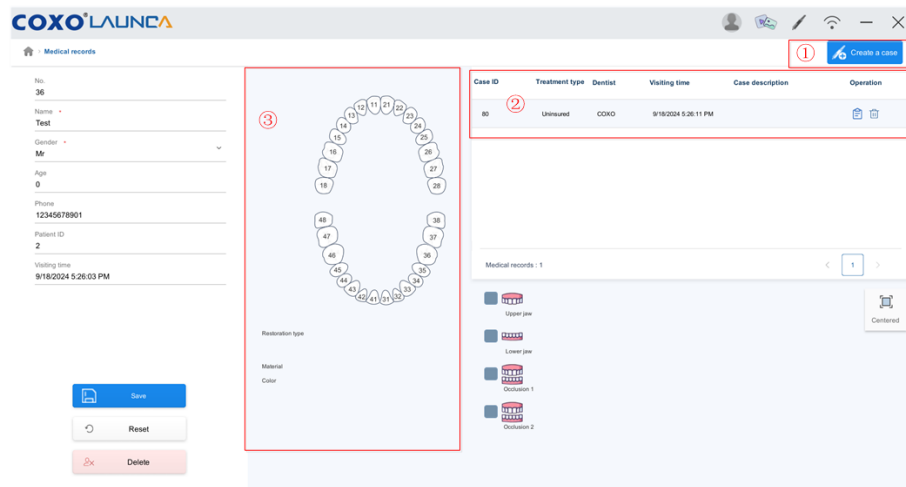
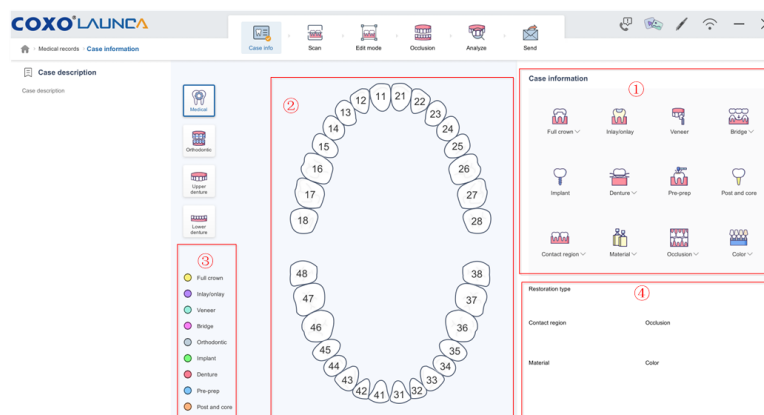

Fig. 4-4 View Patient Information and Case Records
Fig. 4-5 Case Information
Click the icon in the existing case records (as shown in Fig. 4-4) to enter the case information interface as shown in Fig. 4-5. The case can be set up following the below steps:
1) The teeth in the dental arch diagram (area in Fig. 4-5) will be selected and edited one by one. The position number of the selected tooth will turn red. The Dentist can edit the selected tooth with the Case Menu in the area shown in Fig. 4-5. The area in Fig. 4-5 is the information area for the selected tooth.
2) If there is other necessary information in addition to the case options you can enter them in the “Case remarks” area in Fig. 4-5.
⚠ Note: Information of areas No. 2, No. 3, and No. 4 in Fig. 4-5 will appear in the order information. Therefore, please confirm the contents before sending an order. Some of the options in the case menu will make the scanner enter different scanning modes, such as implant mode. Please select the case properly to enter the correct scanning mode.